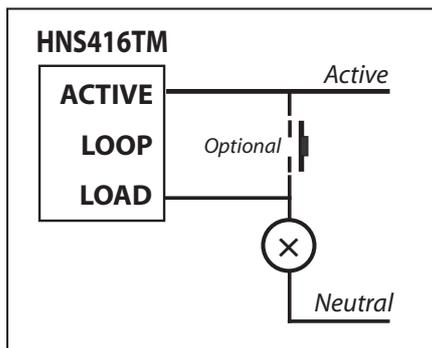

Figure 1
- Install the HNS416TM as per wiring diagram in Figure 1 or 2 below.